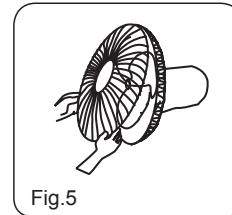

Fig.5
3. Remove the small screw from the clear plastic clasp on the bottom of the front guard and set aside. Place the front guard over the rear guard so that the tab at the top of the front guard fits over the rear guard rim (Fig. 5). Push the two guards together. Close the clasp at the front guard bottom over the rear guard rim, and re-insert and tighten the small screw removed earlier.